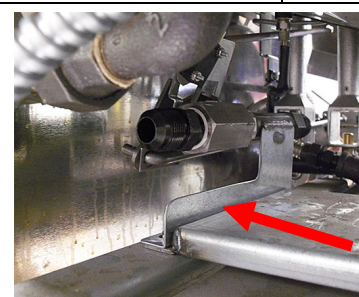

Figure 3
6. Remove the bolts from the filter pump bridge and attach the oil disposal assembly as shown with the bolts (see Figures 3 & 4). The purple lines represent flex lines.